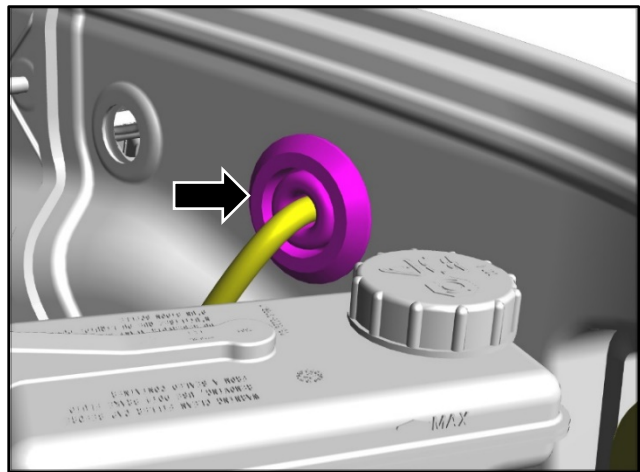

Figure 22
7. Release the rubber grommet (refer to Figure 22).